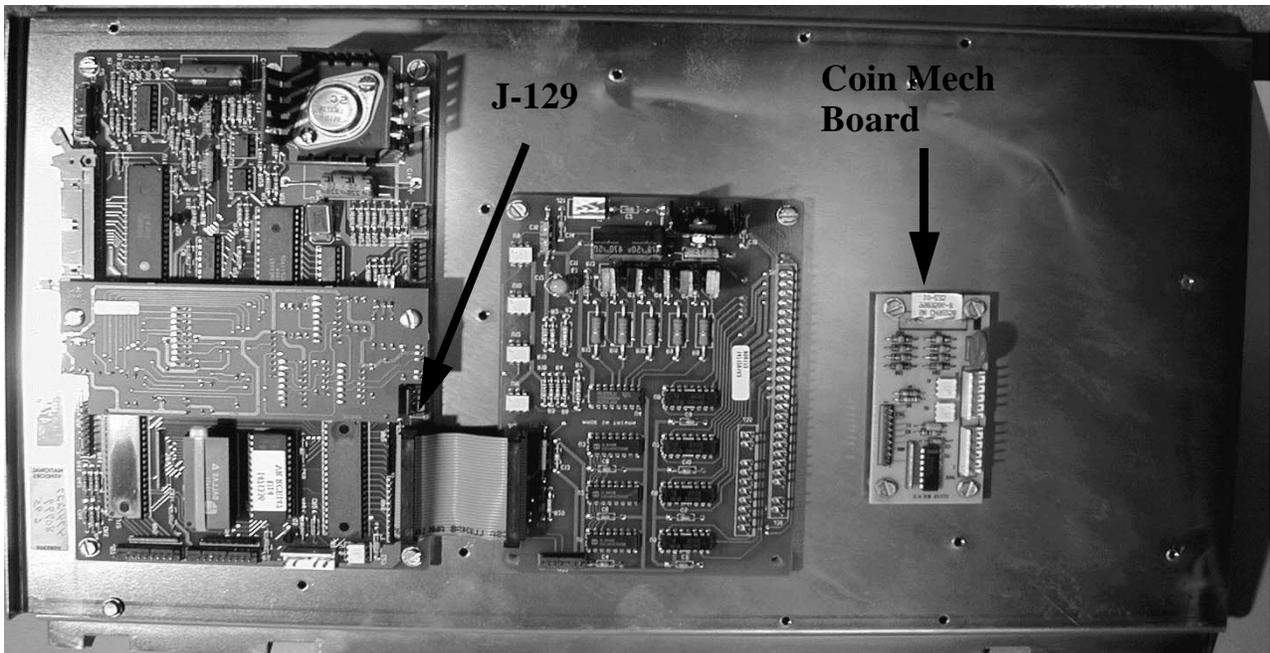

Figure 1
7. Plug bill validator harness part # 1471277 to coin mech board. Connect the plug with the single blue wire to J129 on the main control board. As shown in figure 1.